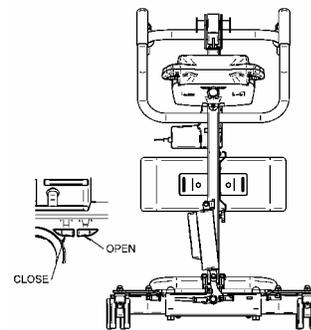

Fig. 3
- **Power base :** The adjustments are made by using the control buttons OPEN and CLOSE on the control box or on the hand control (Fig. 3).